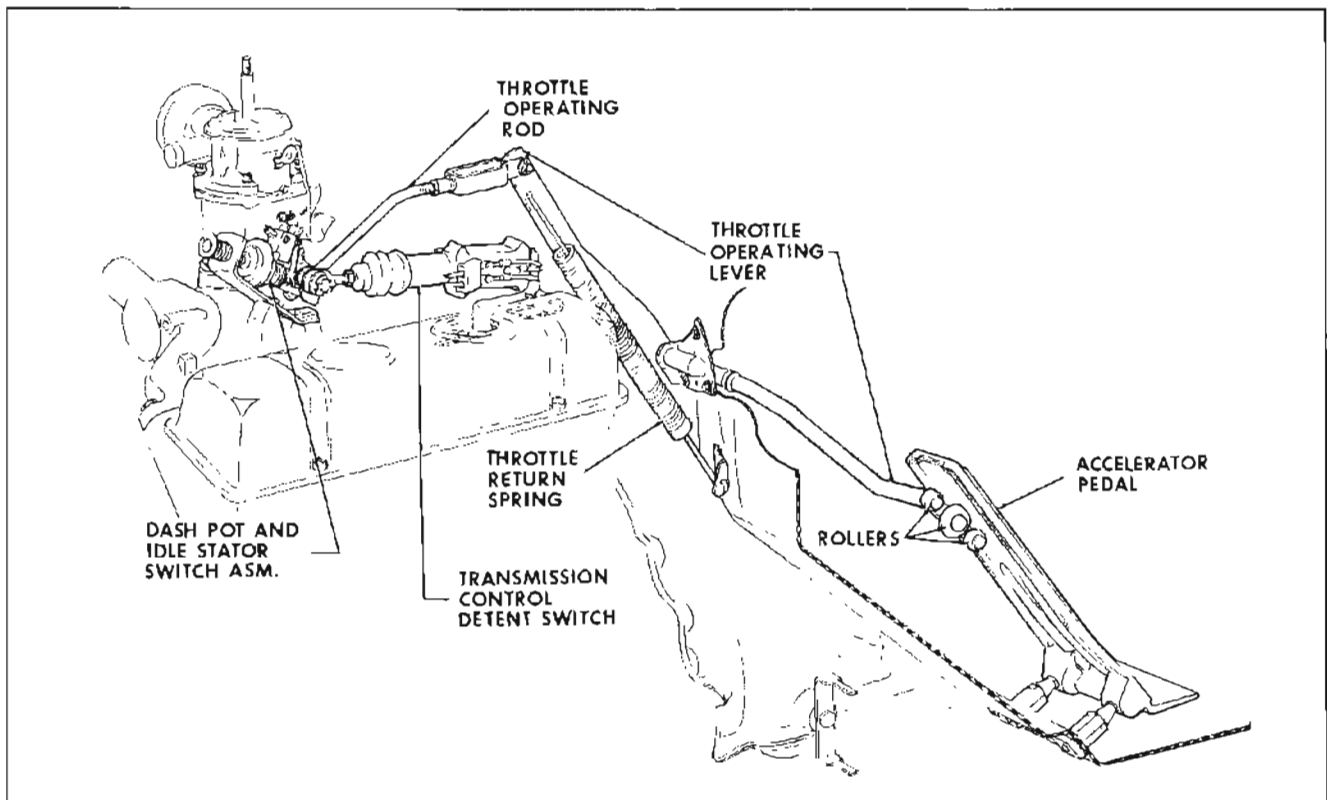

Figure 3-17—Throttle Linkage and Transmission Control Switches - V-6 Engine
2. Unsnap front end of throttle rod from throttle lever. While another man presses accelerator pedal against floor mat, hold carburetor throttle lever in wide open position and hold throttle rod socket in alignment with ball on throttle lever. Socket must be approximately 1/16 inch (2 turns) short of ball. If adjustment is necessary, loosen lock nut, adjust throttle rod length as required, and retighten lock nut. See Figures 3-17 and 18.